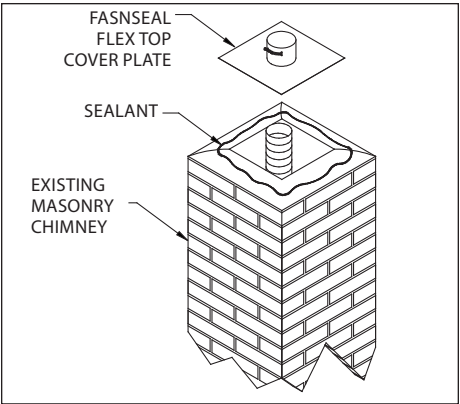

Figure 16
- 1. Slide the Top Plate over the Flex Liner and seal the Top Plate to the masonry chimney using a bead of non-hardening sealant around the top of the chimney and underside of the Top Plate (**Figure 16**).